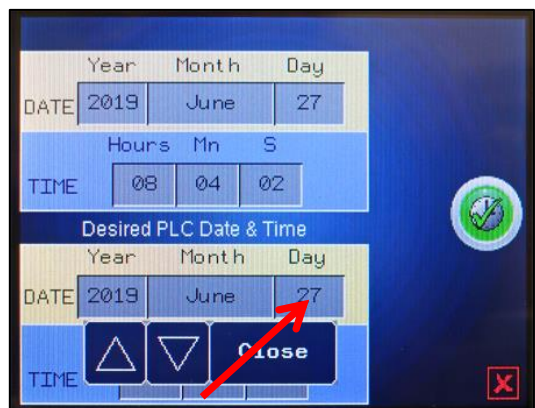

Figure 68
At the **Popup Menu** on the **Advanced Settings** screen, press on the “Set Date & Time” button, Fig. 67, which will bring up the “Set Date & Time” window, Fig. 68.
1. To adjust the **Day**, press inside the box (arrow) marked day, Fig. 68.